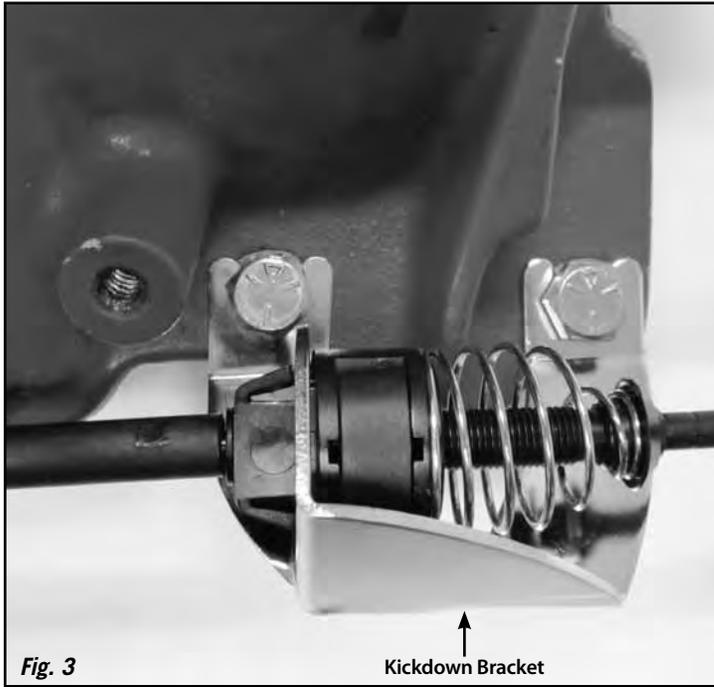

Fig. 3
Step 4: Install the kickdown bracket under the bolt heads. If there are washers on the bolts, make sure the kickdown bracket is installed against the intake manifold, underneath the washers. **Fig. 3**